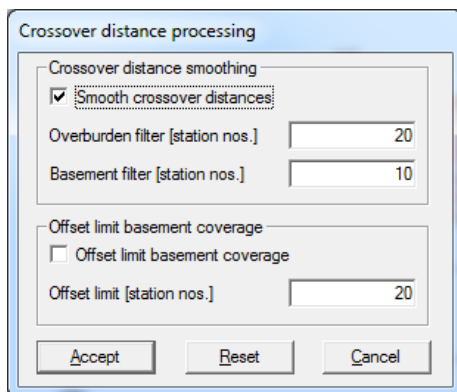

Fig. 11 : Crossover smoothing, ALT+G
- smooth *crossover distances* with ALT+G (Fig. 11)